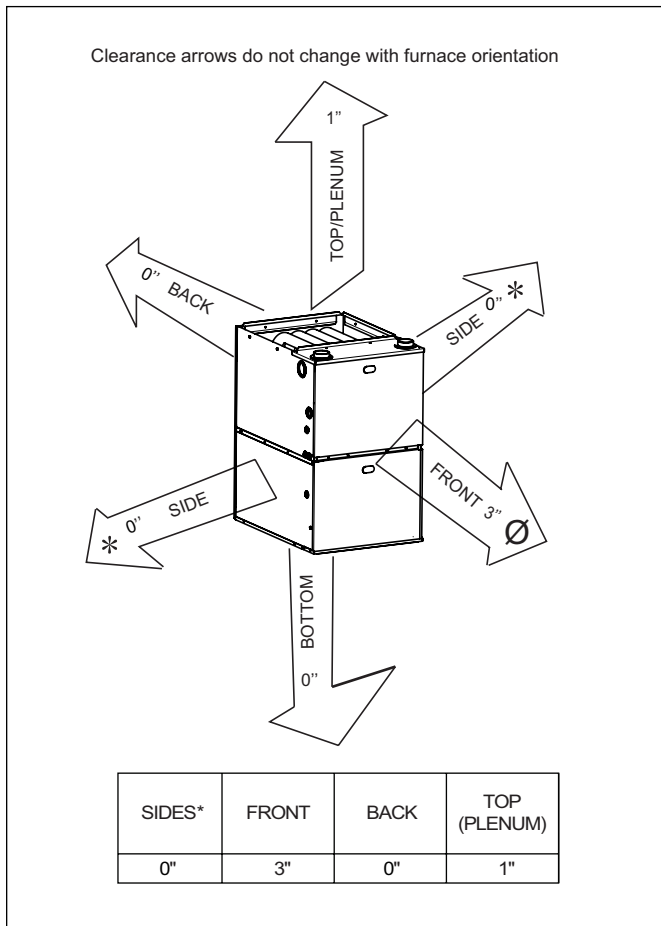

Figure 3 Minimum clearance from combustible construction
See Section 3, Fig. 3 for required clearances to combustible construction.
This furnace may be installed on combustible flooring in alcove or closet at minimum clearance as indicated by Figure 3.
- ▶ Not be installed directly on any combustible material other than wood flooring. Refer to Section 3 Fig 3. for required clearances.
- ▶ Be provided ample space for servicing and cleaning. Always comply with minimum fire protection clearances shown on the furnace clearance to combustible label. Refer to Section 3, Fig 3.